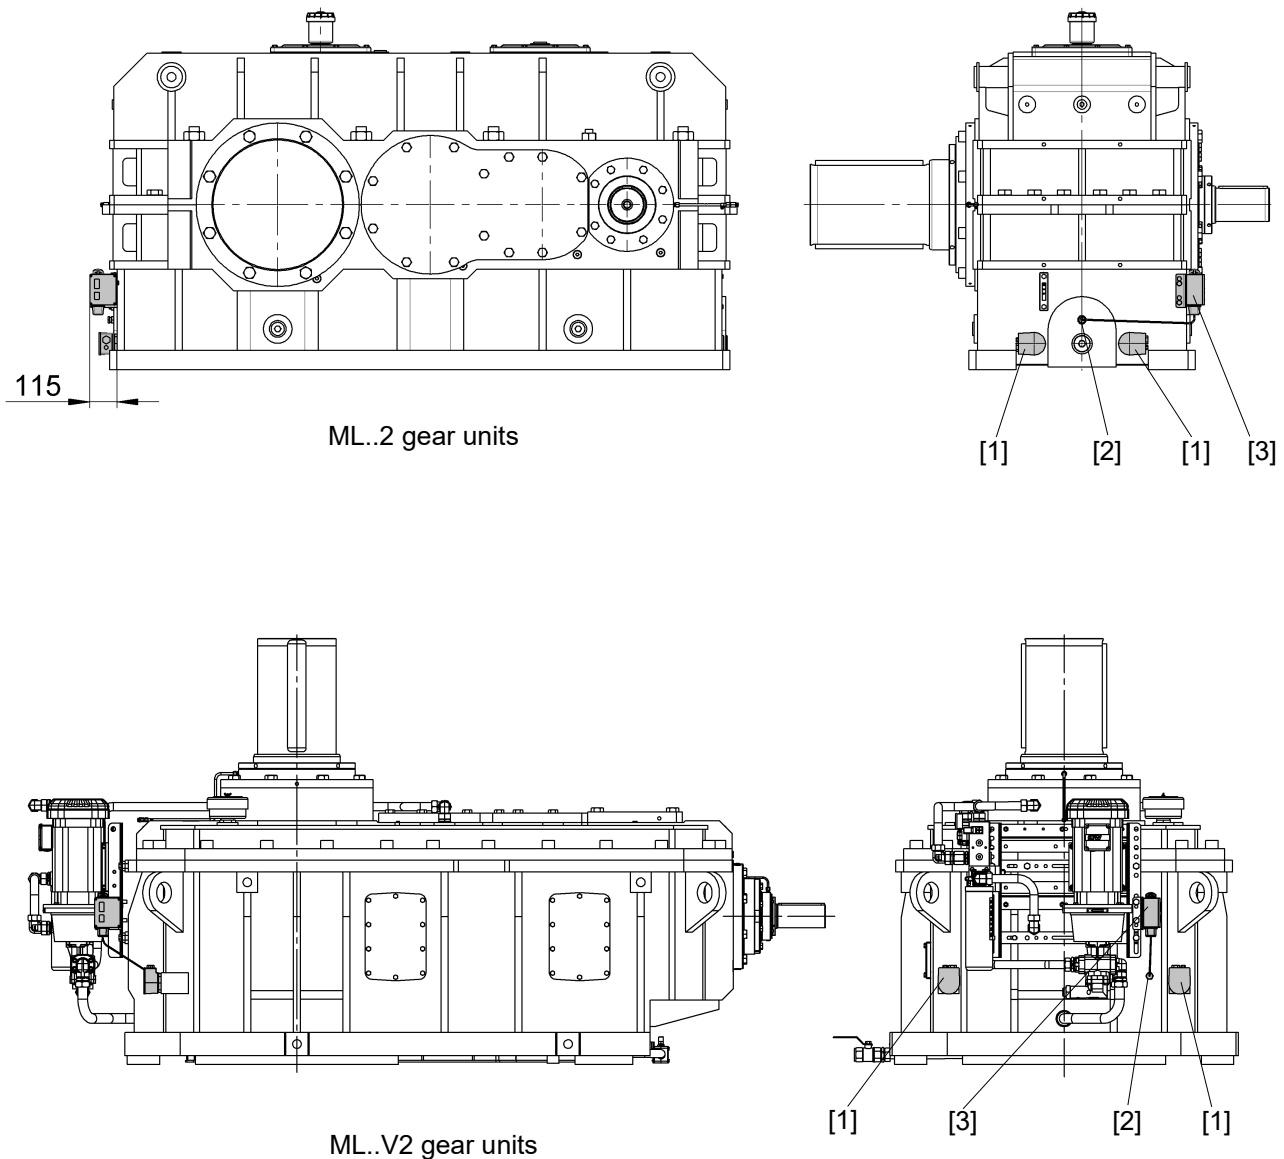

Figure 22: Oil heater for gear units
- The oil heater consists of 3 basic parts (→ Figure 22)